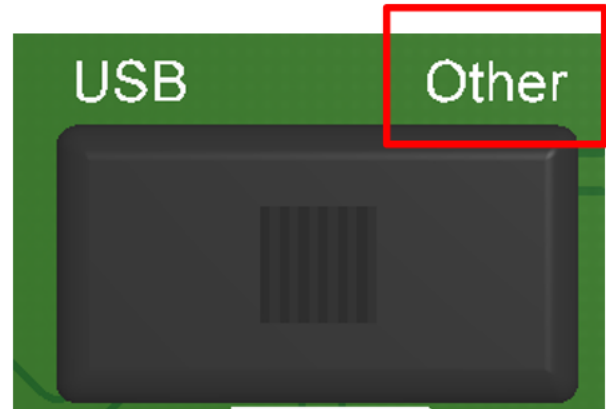

Figure 38. USB vs Other = 'Other'
- If you are going to power the programming board with an external power supply or wall socket, then set the switch to the "Other" state as shown in Figure 38